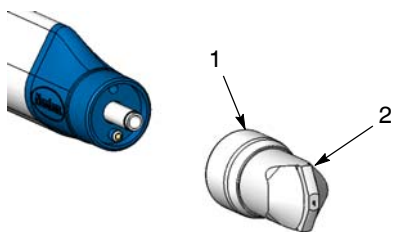

Figure 19 Removing Nozzle
1. See Figure 19. Remove the retaining nut (1) and nozzle (2).
2. See Figure 19. Remove the nozzle.
13. See Figure 19. Install the nozzle (2) over the ceramic fitting and tighten the retaining nut (1).